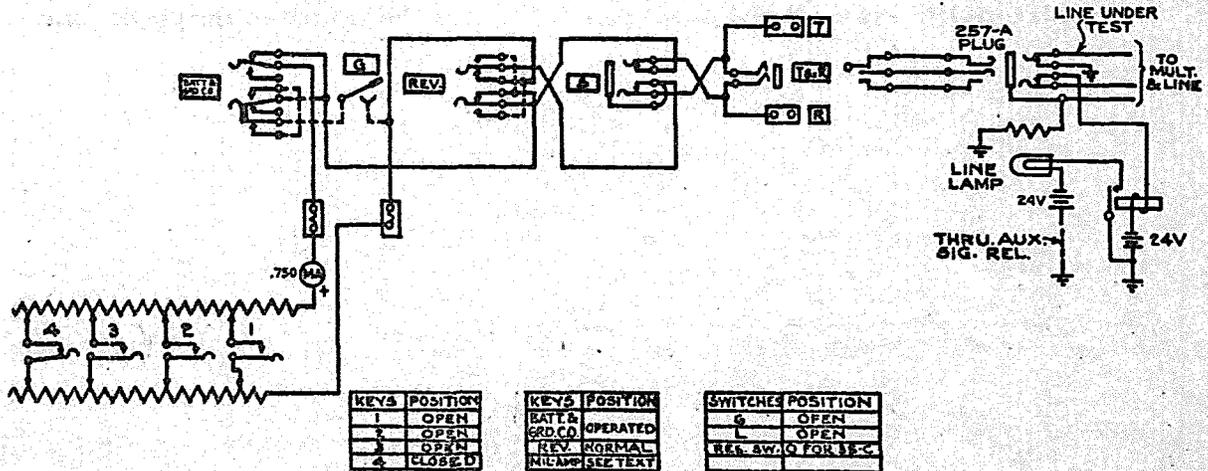

Fig. 1
- 3.2 Arrange the test set keys and switches as shown in Fig. 1, for this test.